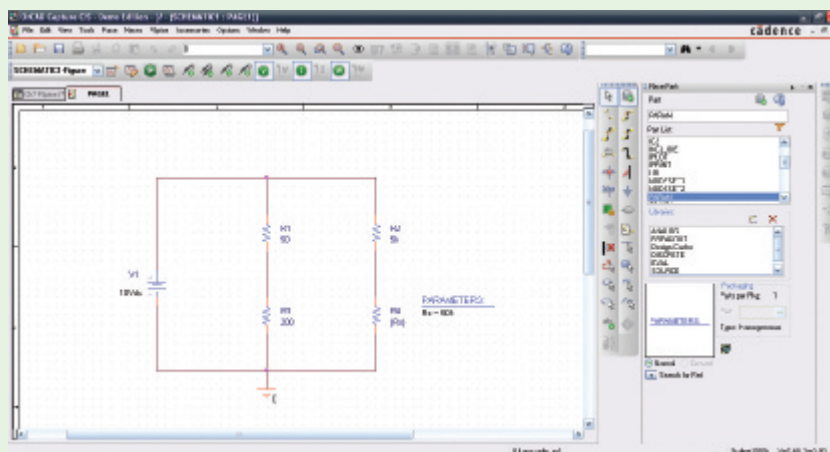

FIGURE 7-43
- Build the circuit as shown in Figure 7-43. Remember to rotate the components to provide for the correct node assignments. In order to determine whether you have the correct node assignments, place the cursor at the top of resistor R3. You should notice it labelled as R3/1. If it is not, then rotate the component twice. Repeat this process for resistor R4. (This step becomes important when we try to get the trace of the output voltage.) Change all component values (except R4) as required.